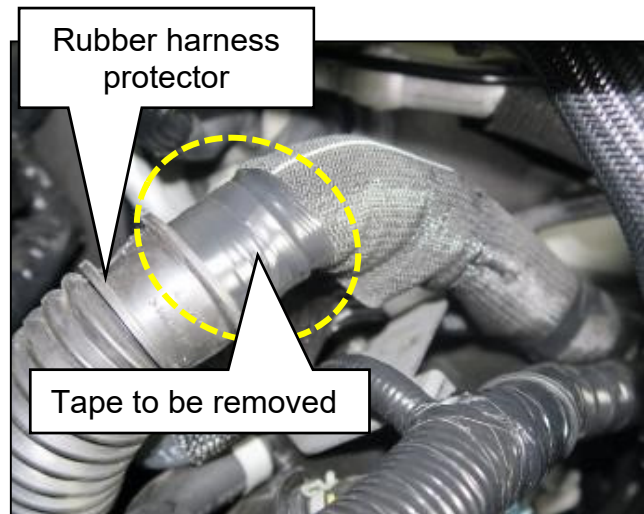

Figure 12
10. Carefully remove the vinyl tape to expose the area above the rubber harness protector, shown in Figure 12.